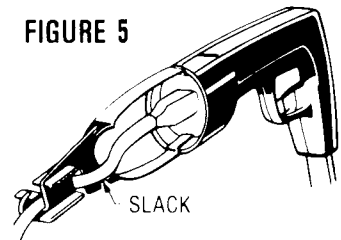

FIGURE 5
2. Plug extension cord into Switch Handle and fit cord into Retainer, leaving a little slack (Figure 5).